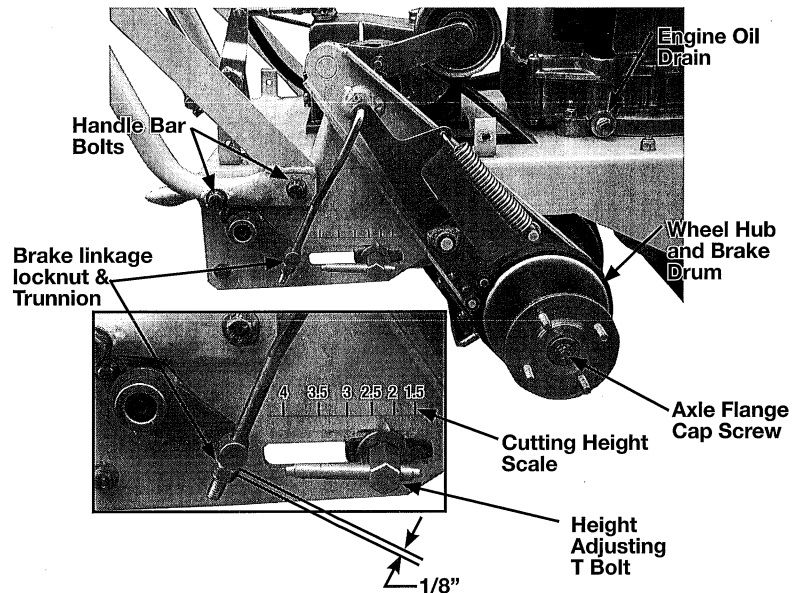
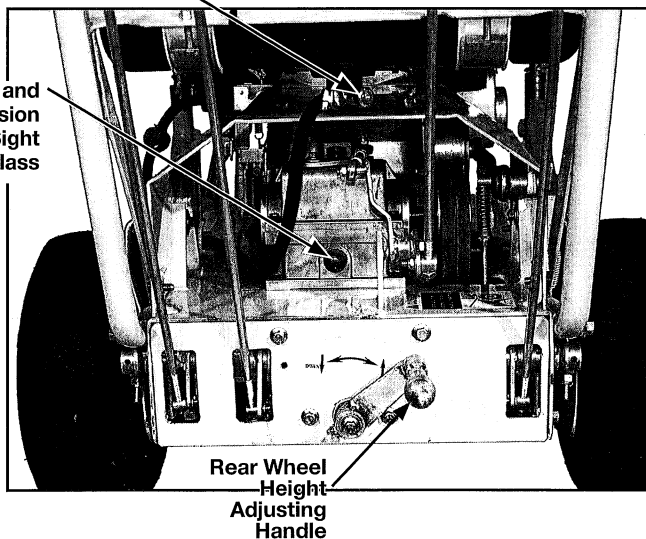

FIG 9 Brake linkage
FIG 13 Rear Wheel Height Adjustment
## WHEEL BRAKE ADJUSTMENT FIG 9
5. To adjust the Rear Wheel settings refer to Fig 9. Loosen both Height Adjusting T-Bolts. Unlock the Rear Wheel Height Adjusting Handle Fig. 13. Rotate the Handle clockwise to raise and counterclockwise to lower the Rear Wheels. Align the pointer on the register mark which corresponds with the number of Caster Spacers on the bottom of the Caster Wheel Bracket.